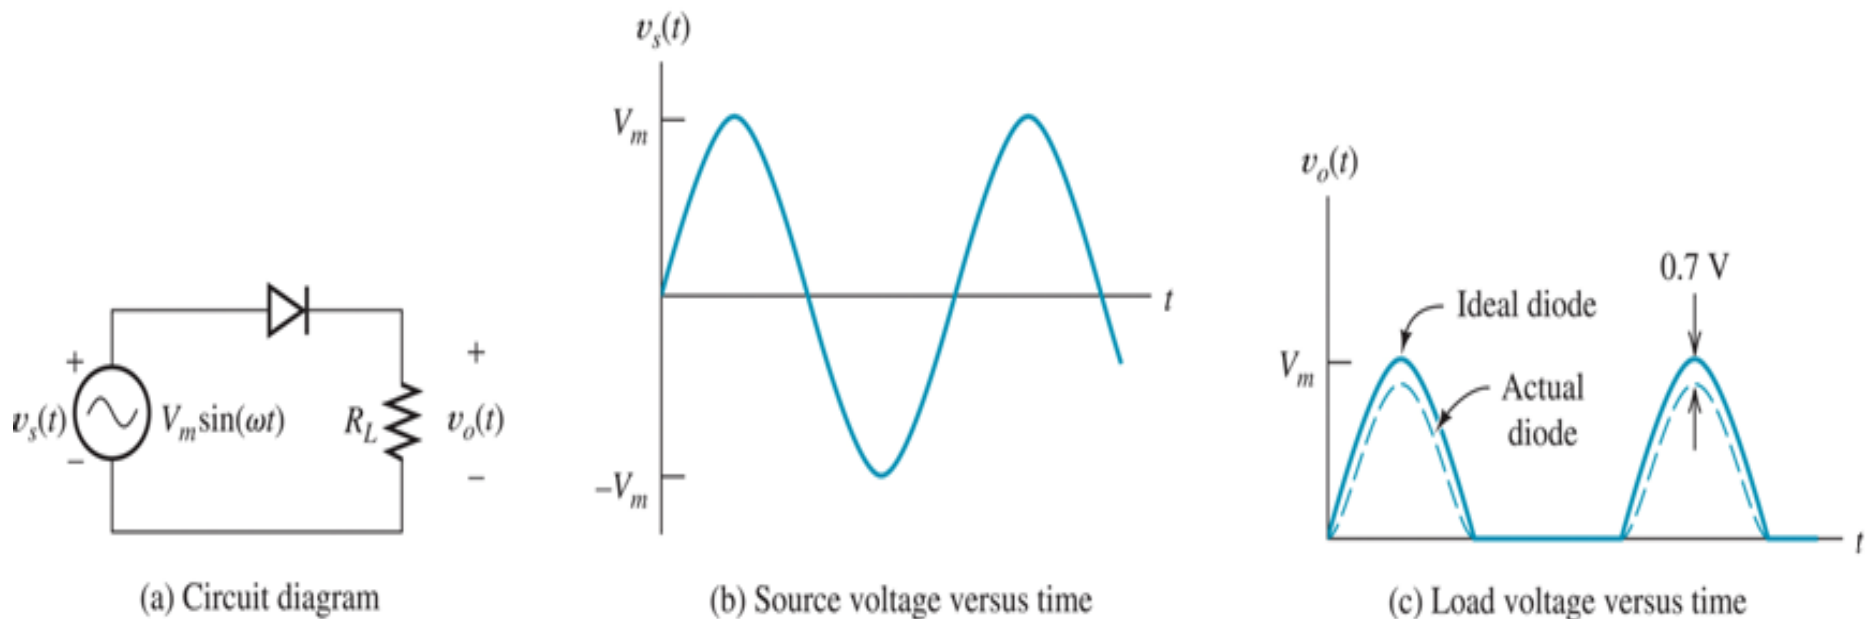

Figure 4.4: Half-wave rectifier with resistive load .
- A half-wave rectifier circuit feeding a resistive load is shown in Fig. 4.4.